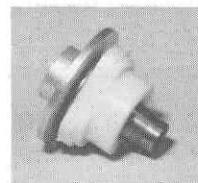

Fig. 58
- ☐ **Fig. 58** Oil the bushing and slip it on the dif tube, as shown, or install a ball bearing.